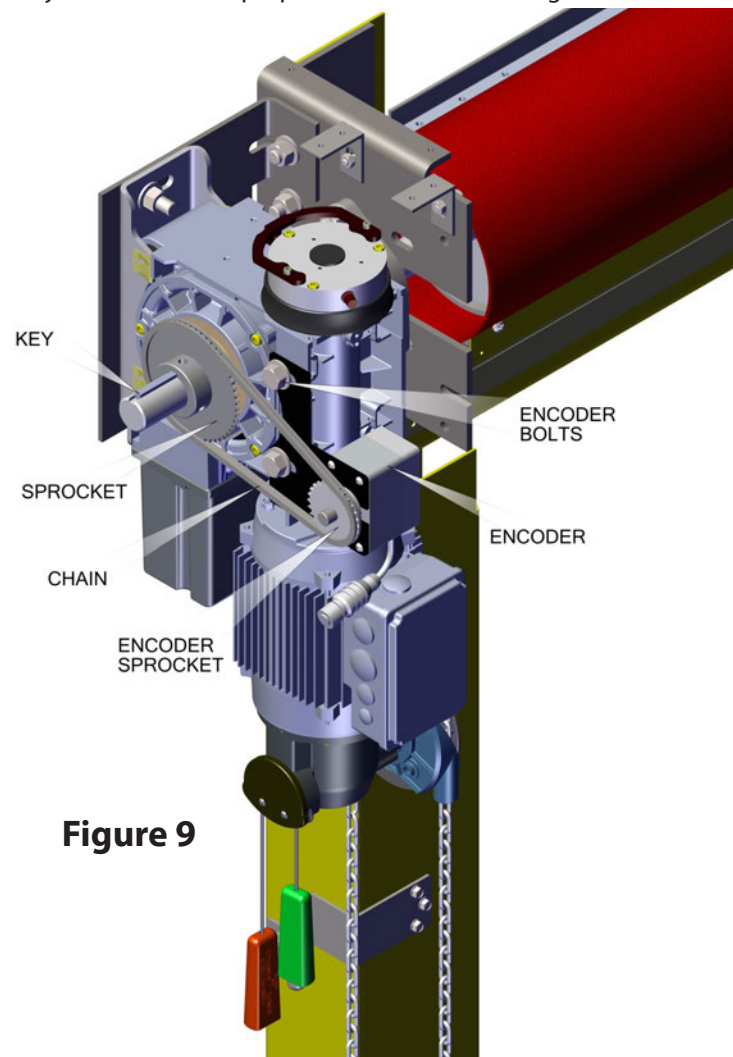

Figure 9
- Install the sprocket by sliding it onto the shaft. Attach the chain to this sprocket and the encoder sprocket, as shown in Figure 9.
- The encoder bracket attachment bolts, holding the encoder assembly onto the motor, may need to be adjusted to achieve proper chain tension. See Figure 9